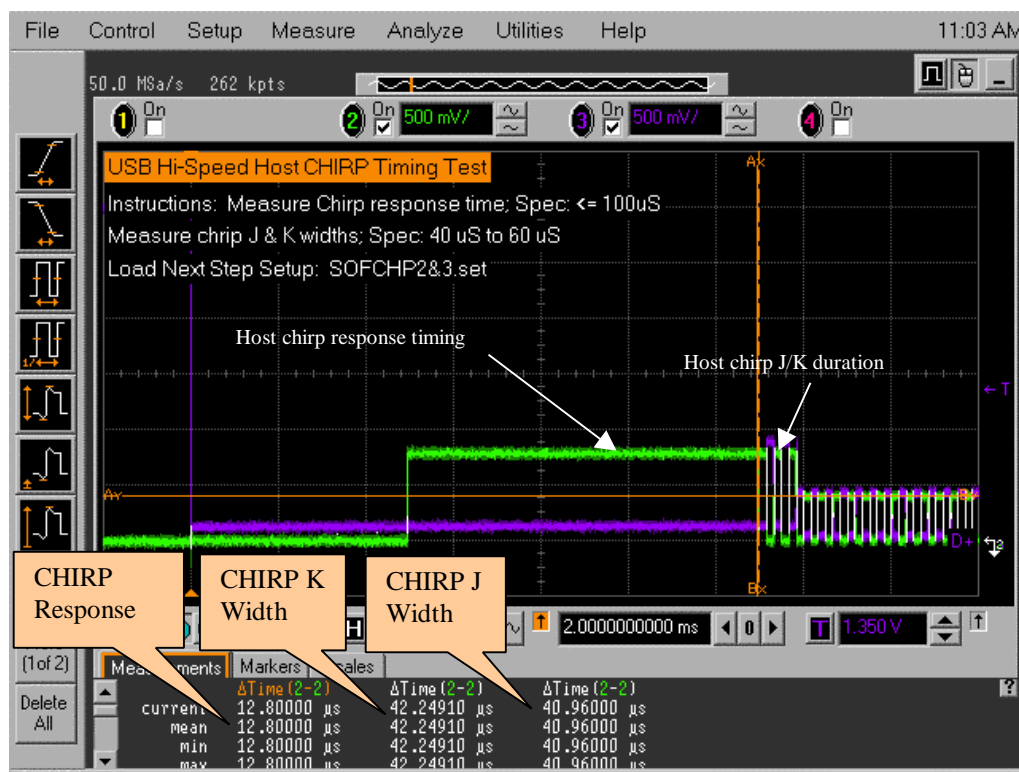

Figure 24. Hi-speed Chirp
6. Click [Enumerate Bus] and capture the CHIRP handshake as in Figure 24
- b. The scope automatically measures the chirp response time and displays it as shown in Figure 24
- a. The scope automatically measures the Chirp-K and Chirp-J duration as shown in Figure 24